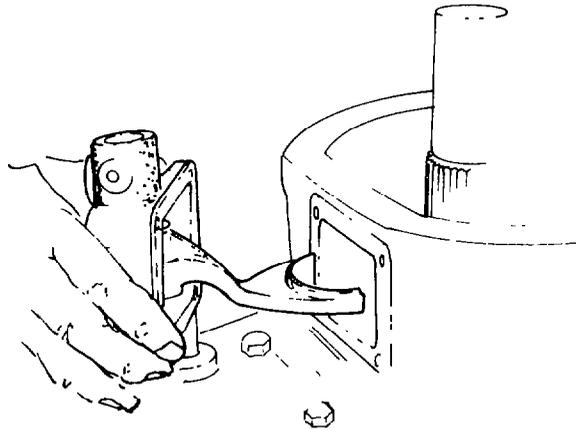

Fig. 223 — Removing Front Drive Selector Assembly
- j. Remove the front drive selector assembly from the front drive housing (see fig. 223).